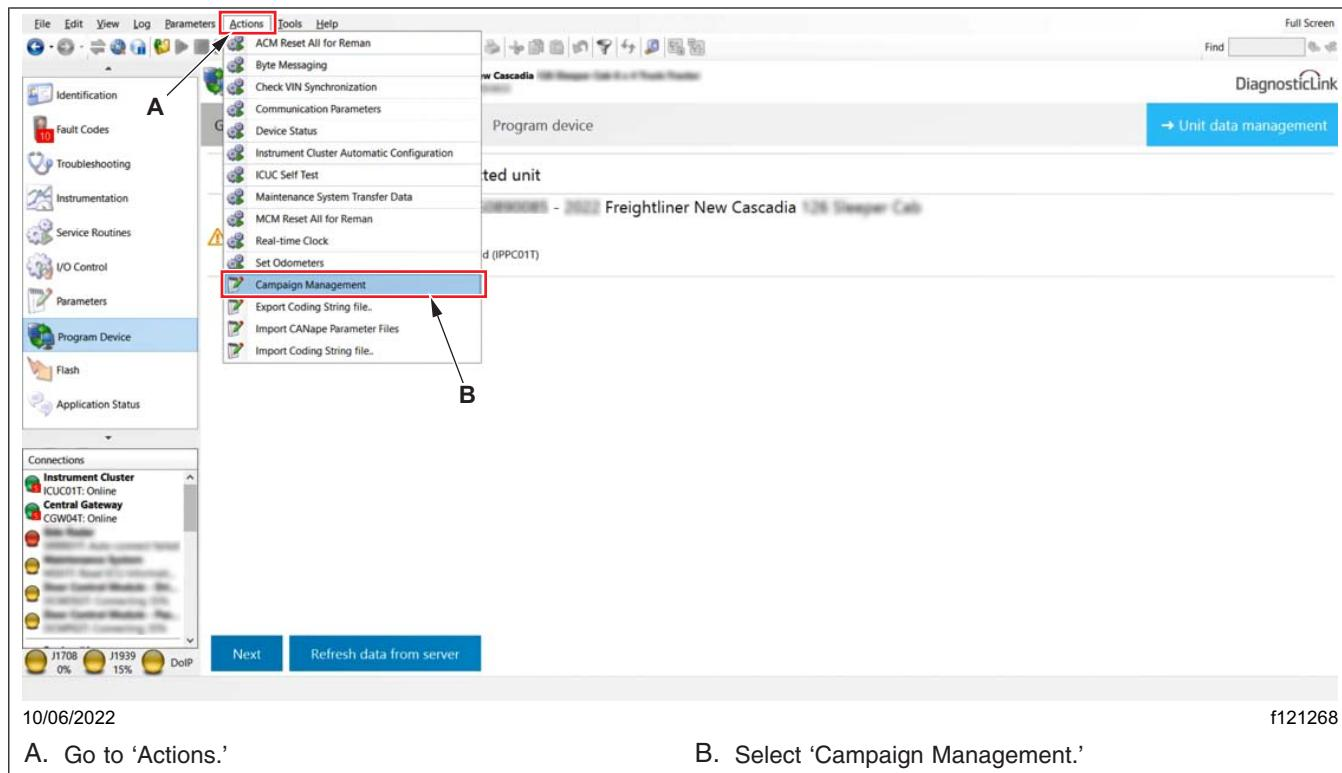

Fig. 8, Launching the Campaign Management Window
18.1 From the menu bar, select 'Actions,' then go to 'Campaign Management.' See **Fig. 8.**